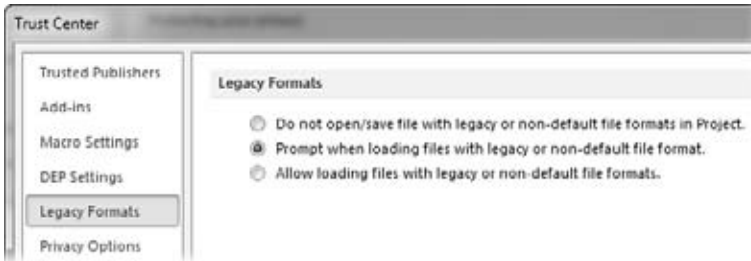

Figure 6-4:
3. **Click Legacy Formats, and then select the Legacy Format option you want, as shown in Figure 6-4. Then click OK.**